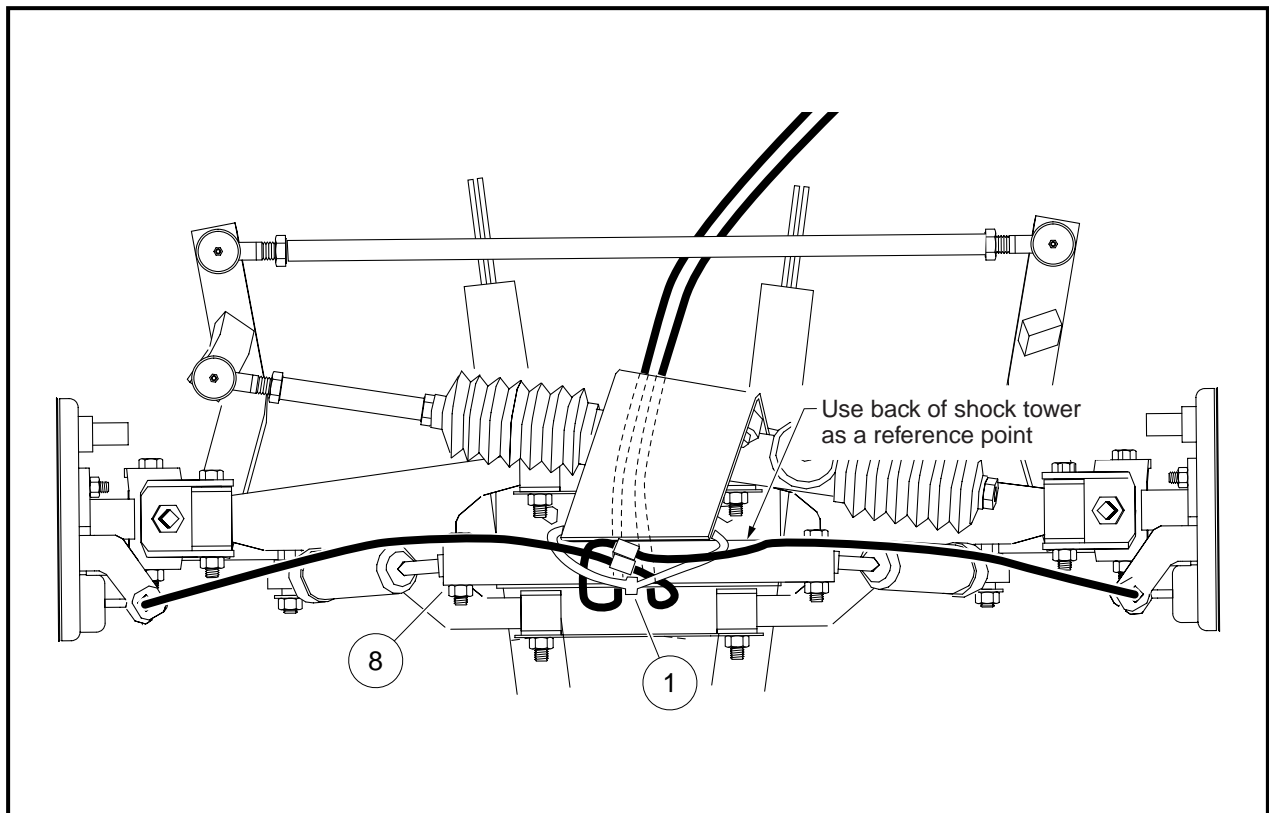

Figure 6-21 Align Cables With Tower
10. Tighten the wire tie (1) above the shock tower (8) until the cables between the front brakes and the cable clamps are aligned with the back of the shock tower as shown (**Figure 6-21, Page 6-13**).